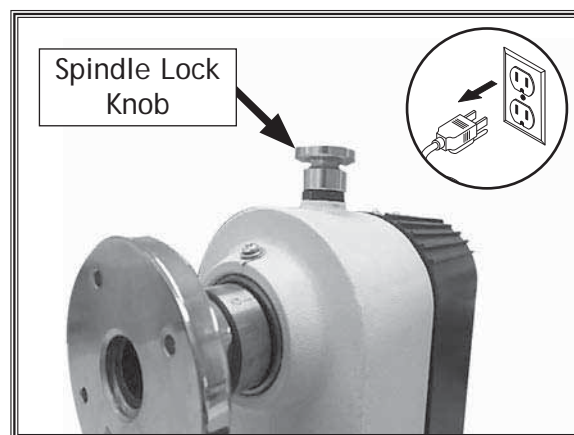

Figure 25. Spindle lock knob in *Locked* position.
2. Lock spindle lock knob (Figure 25), then rotate faceplate counterclockwise until it is removed.